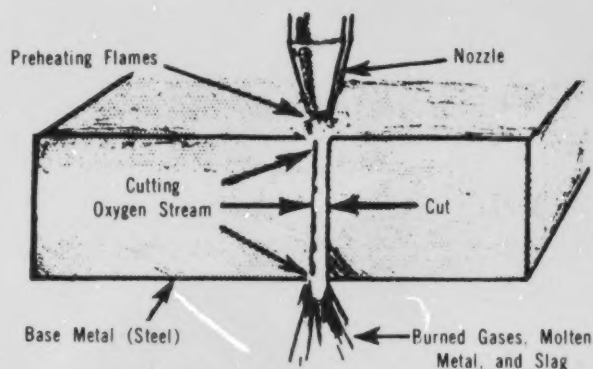

Figure 18-20. Flame-Cutting
- a) Flame-cutting is accomplished by rapid oxidation of combustion of heated steel when a jet of pure oxygen from a cutting torch is directed against it. The steel is cut by first heating a small area to the kindling temperature by the pre-heating flames, then directing a jet of oxygen against the pre-heated area, as illustrated in Figure 18-20.